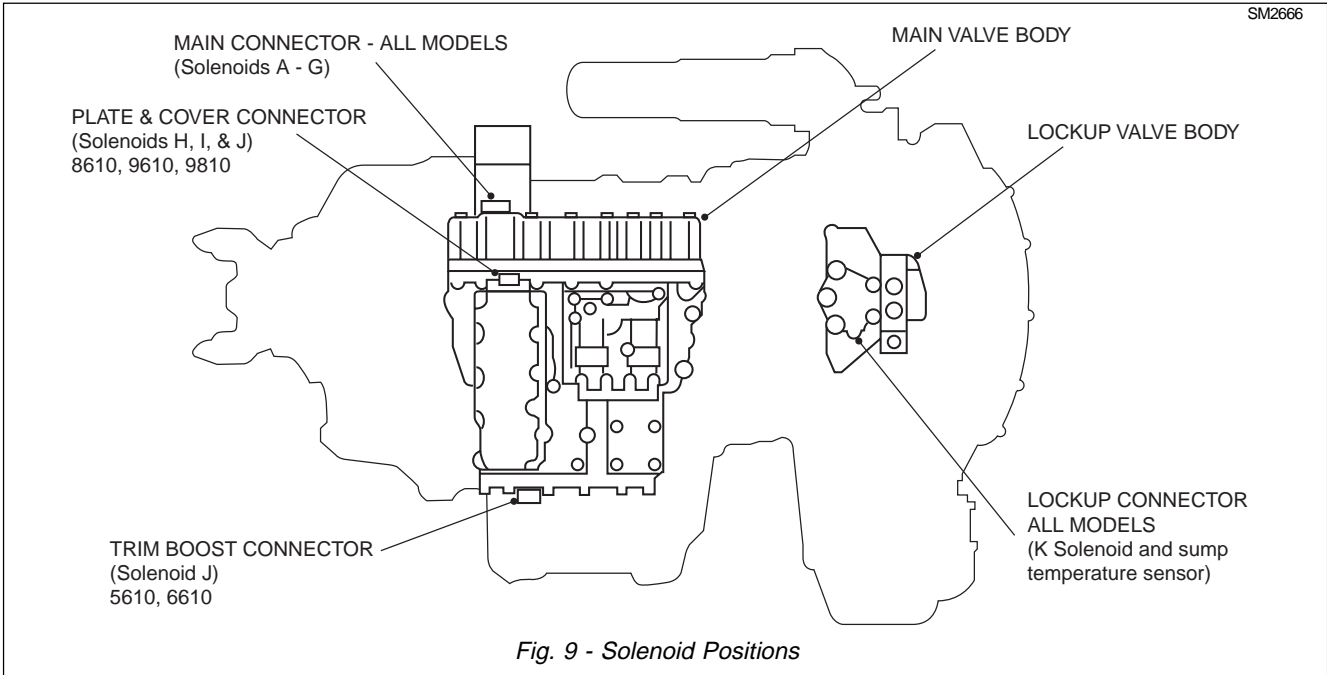

Fig. 9 - Solenoid Positions
Electro-Hydraulic Valve Components: The CEC-2 electro-hydraulic valve bodies contain various solenoids to control hydraulic pressure (Fig. 9). The solenoid pressure, or lack of pressure, positions shift valves that apply transmission clutches to produce the range selected by the ECU inputs (Fig. 10). The ECU is connected to the solenoids by a wiring harness, with multi-pin twist-lock connectors at the valve bodies (Ref. Fig. 25).
For all transmission solenoid locations please refer to Fig. 9. All transmission solenoid inputs/outputs are received at the ECU transmission connector (T). Refer to Fig. 25.